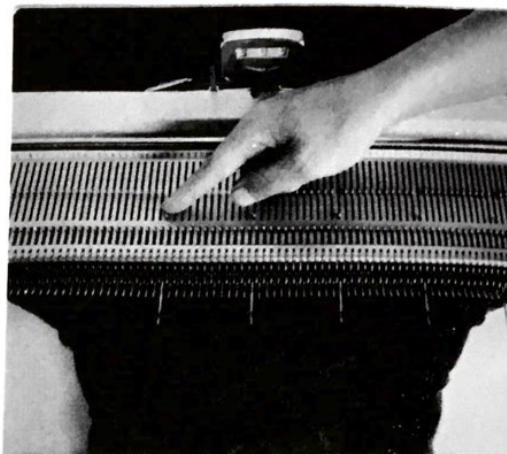

Fig. 26
- (1) Turn both Pattern Control Knobs to 'M'. Move the Shifting Cam Lever to "C" and push BACK into Position "I" both Return Cam Levers.
- (2) The number of needles required for Tucking (Holding) should be brought forward into Position (E) (Holding Position.)— Figs. 26 & 27.